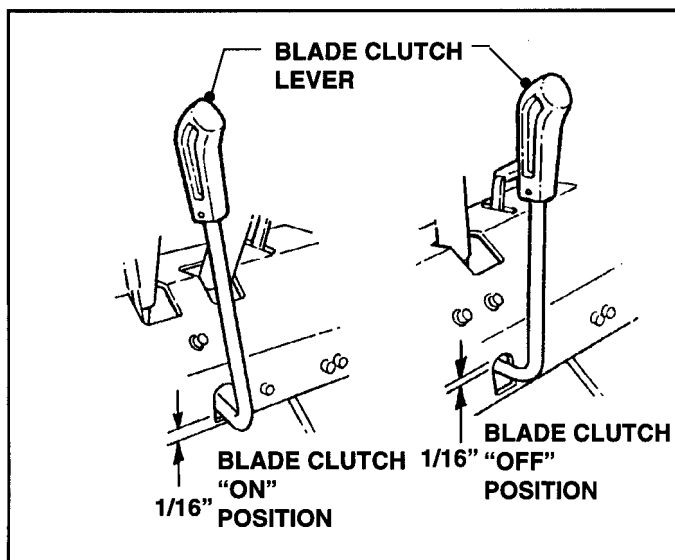

FIGURE 5.9
- A.** Check clearance between the Control Console and the Blade Clutch Lever while the lever is in the **ON** position, then the **OFF** position. There should be  $1/16"$  clearance in each position. See Figure 5.9.